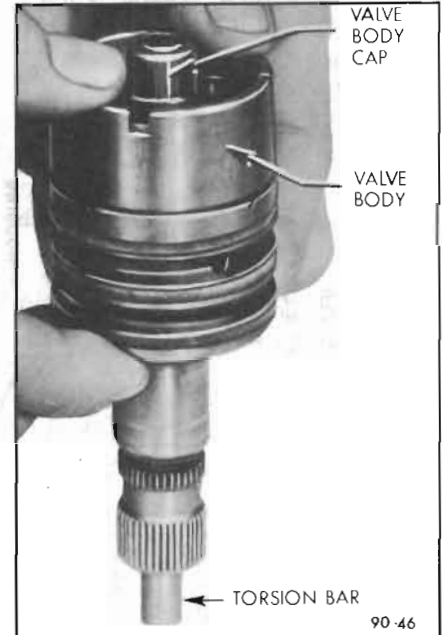

Figure 90-46—Removing Stub Shaft, Torsion Bar and Cap Assembly From Valve Body
4. Remove the stub shaft, torsion bar and cap assembly by holding the valve assembly with stub shaft downward as shown and rapping torsion bar lightly against workbench to dislodge the cap from the valve body to cap pin. See Figure 90-46. Complete the removal of the stub shaft torsion bar and cap assembly.